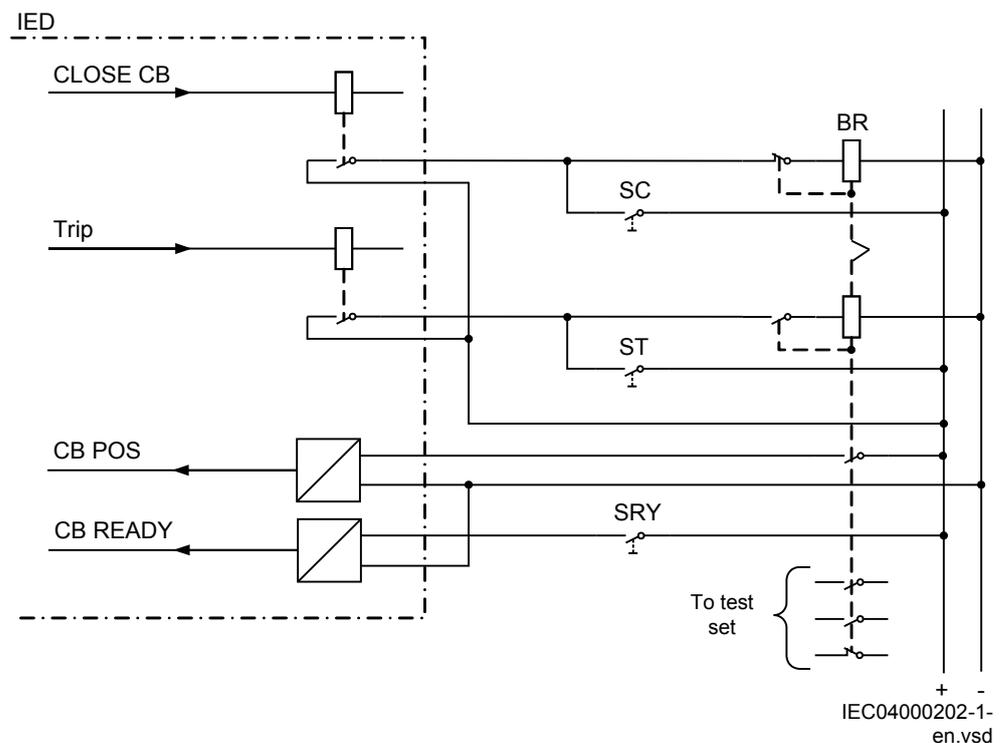

Figure 74: Simulating the CB operation by a bi-stable relay/breaker simulator and manual switches
The verification test is performed together with protection and trip functions. Figure 74 illustrates a suggested testing arrangement, where the circuit-breaker (CB) is simulated by an external bi-stable relay (BR), for example a relay type RXMVB2 or RXMD or Breaker Simulator of ABB. The following manual switches are used:
- Switch or push-button to close (SC)
- Switch or push-button to trip (ST)